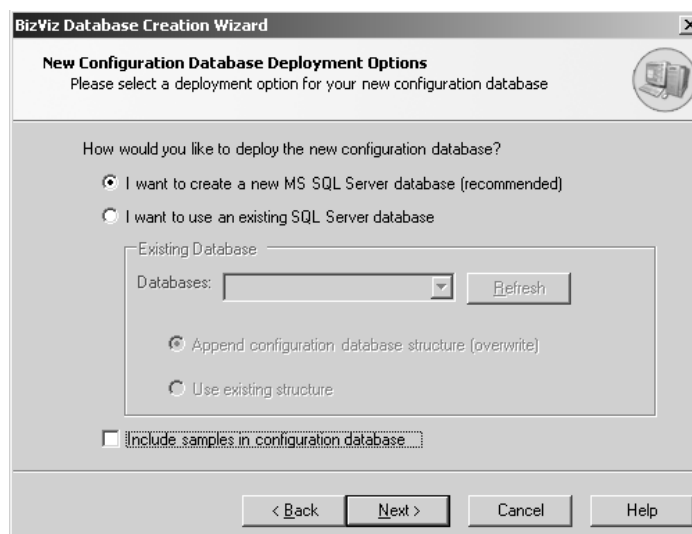

Figure L2.5 - Creating a New Microsoft SQL Server Database
5. Select **I want to create a new Microsoft SQL Server database [recommended]**. There is also an option to include or exclude the **BridgeWorX samples**. Make sure that this option is unchecked, as shown in Figure L2.5, and then click on the **Next** button to continue.